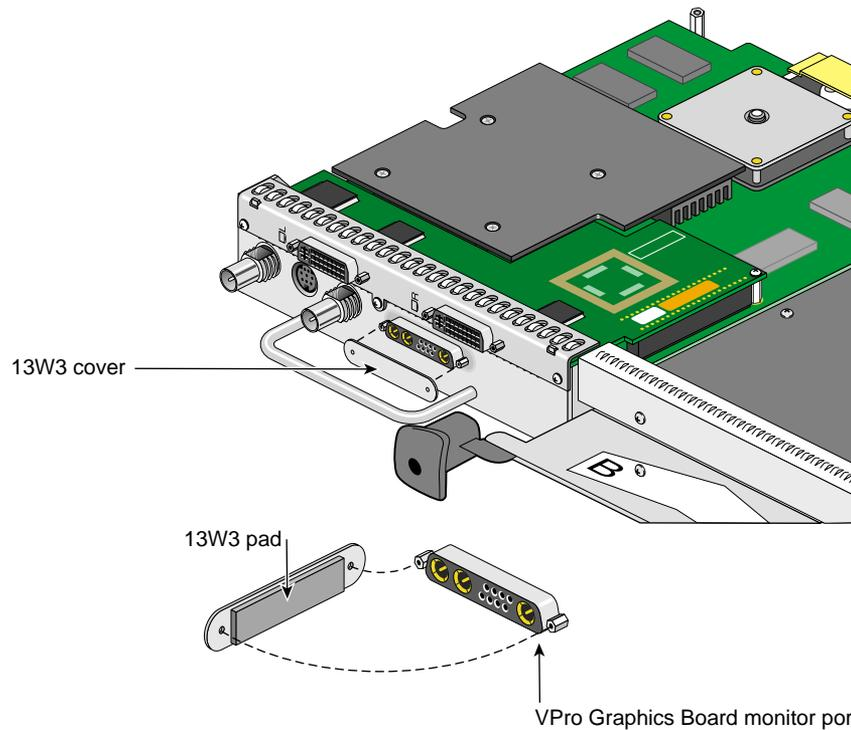

Figure 1-21 Placing the 13W3 Cover over the VPro Graphics Board Monitor Port
12. Place the 13W3 cover over the VPro Graphics Board monitor port, with the padded side of the cover facing the monitor port, as shown in Figure 1-21.